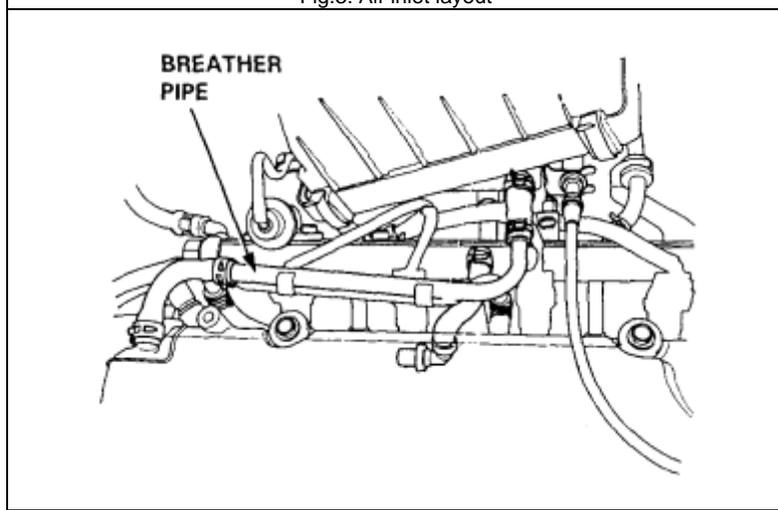

Fig.5: Breather pipe connections
- d. Remove the breather hose from the base of the filter case and from the cam cover (Fig. 5).